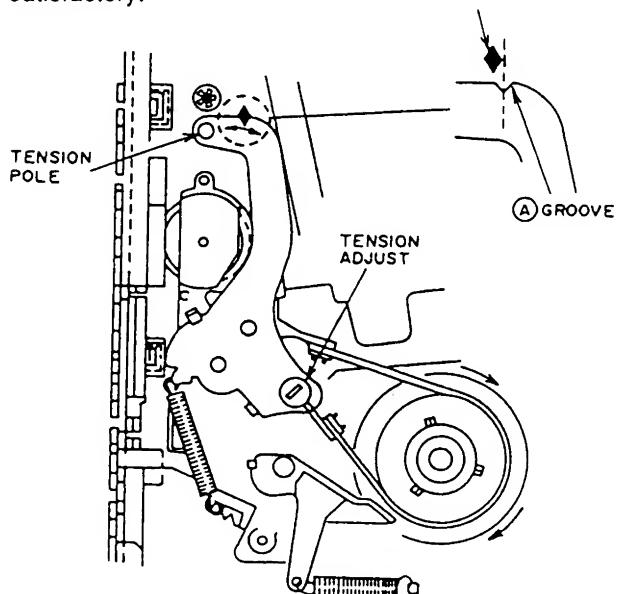

Fig. 4-1
- 2) Confirm that the **Ⓐ** groove on the TENSION ARM aligns with right end of the **Ⓐ** mark on the MECHA. CHASSIS as shown in Fig.4-1.